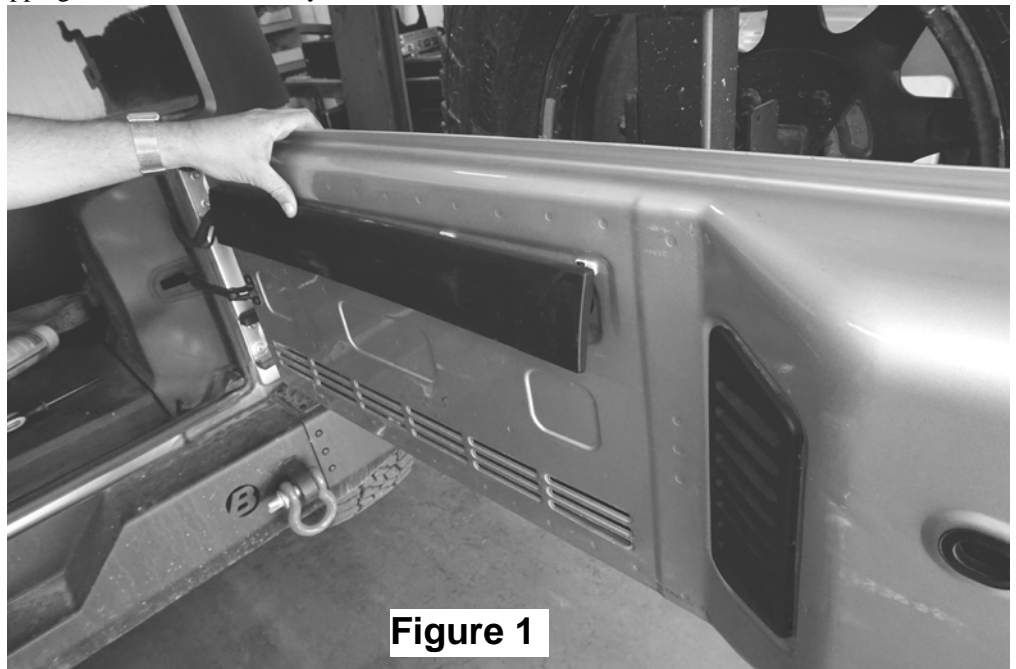

Figure 1
2. Open the tailgate and remove the trim panel from the inner surface, by lifting at the bottom of the panel. See Figure 1